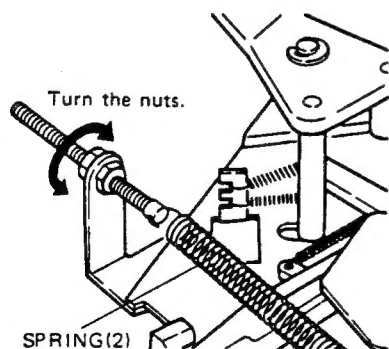

Fig. 9
Adjust spring (2) tension to give the correct spring, increasing tension to increase speed and reducing tension to decrease speed (Fig. 9).